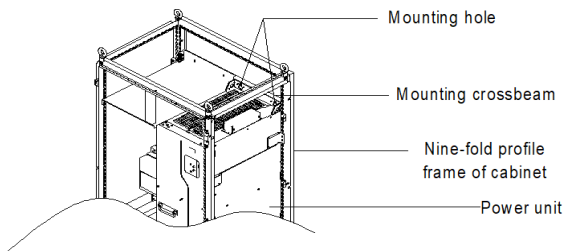

Figure 4-12 Three-dimension view of mounting a 280–630kW VFD in a cabinet
- B. When mounting a GD270 series 280–630kW VFD into a nine-fold profile cabinet with the depth of 600mm, you must bend the mounting crossbeam inwards (shown in Figure 4-12) to make use of